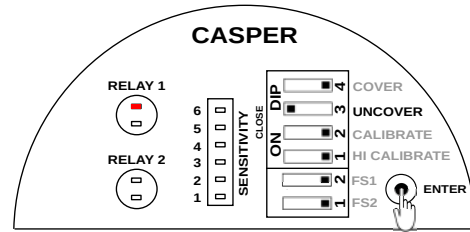

Figure 15: Setting Uncover Delay
- Press ENTER and keep it pressed as shown in Figure 15. The STATUS RED LED of Relay 1 will start blinking. Count the number of blinks. After setting the value release the ENTER key.